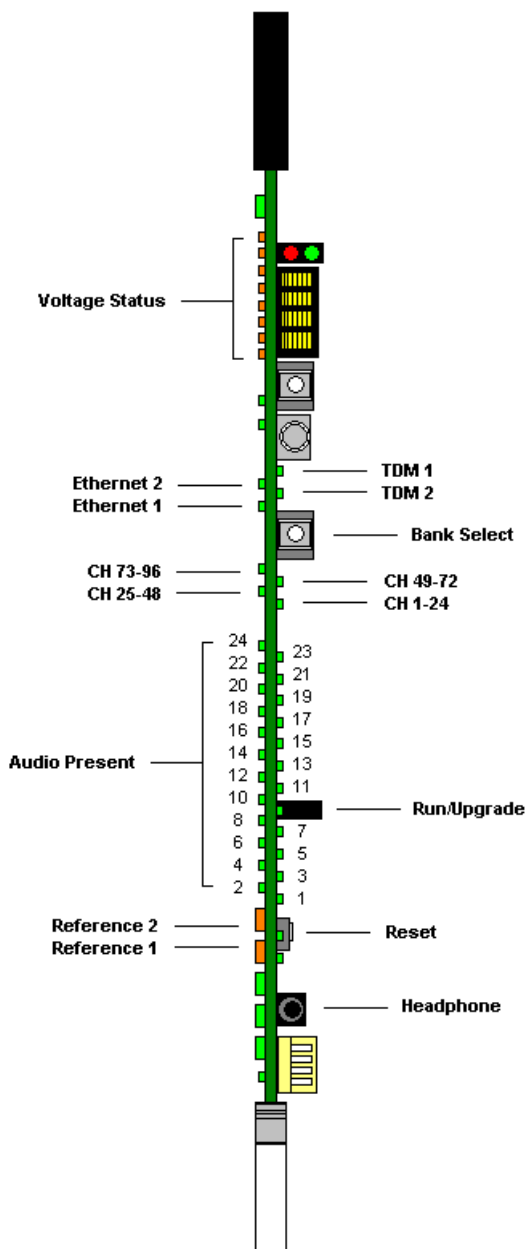

Figure 2-9: EMR-OP96 (48)-AESU (B) Front Card Edge
The EMR-OP96 (48)-AESU (B) front card edge has some key controls and indicators that can help in the installation and debugging processes. Figure 2-9 and Table 2-6 show the card edge and describe the expected behavior of each component. If the status indicators do not behave as described it can be a sign of installation or configuration issues.